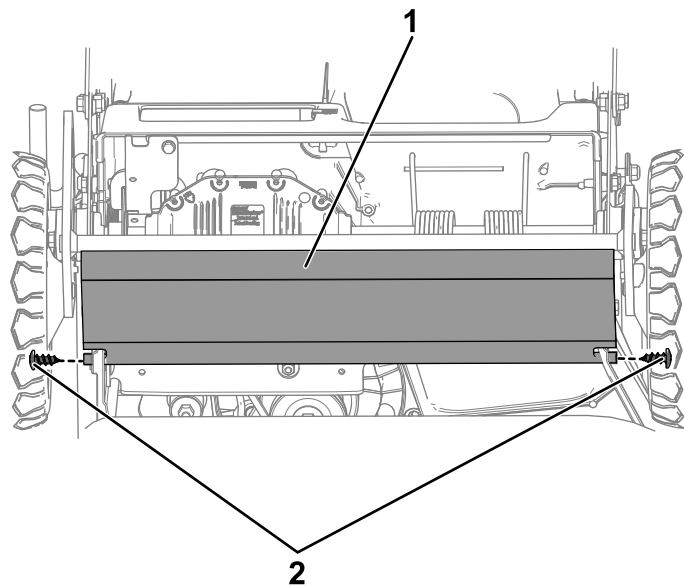

Figure 37
7. Remove the trailing shield by removing the 2 bolts holding it in place (Figure 37).